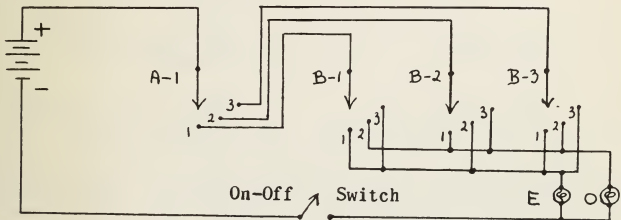

Figure 2-8 -- A Sample Circuit
16. An Example. Suppose we have a circuit as shown in Figure 2-8. This circuit consists of two switches A and B, each having the positions 1, 2, 3, two lights marked E and O, and a battery. Only one deck of switch A is used but three decks of switch B are used.